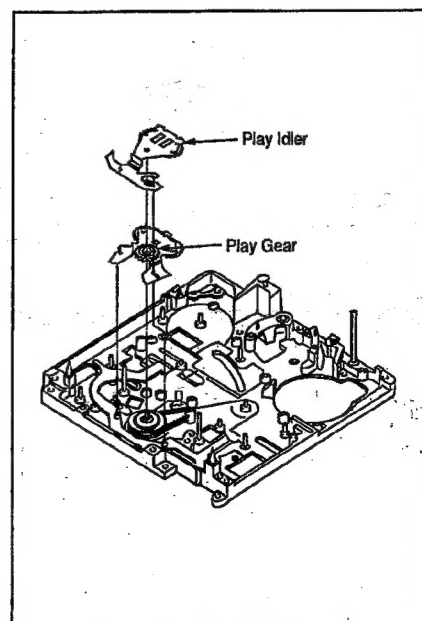

Fig. M20
- Fig. M20 Confirm the hooking portion of the Main Brake-S Spring.